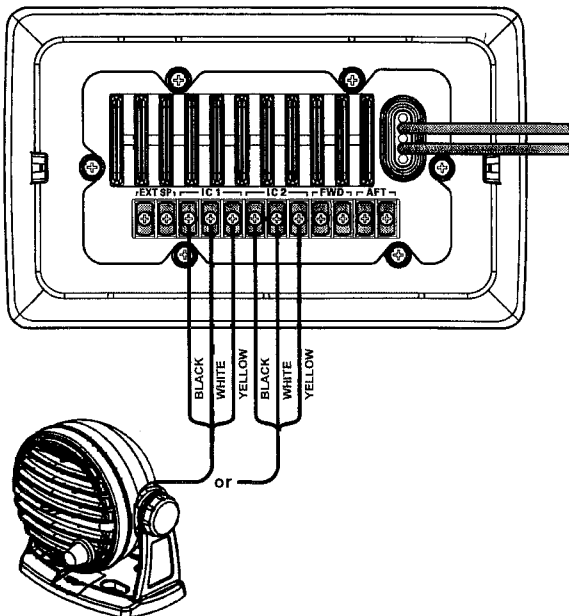

Figure 3
7. Route and secure the connection cable from the **MLS-300i** to the **VLH-3000** Loud Hailer. Connect the WHITE wire of the connection cable to the "positive (+) intercom speaker output," the shield of the connection cable to the "negative (-) intercom speaker," and the YELLOW wire of the connection cable to the "push to alert" terminal (Figure 3).